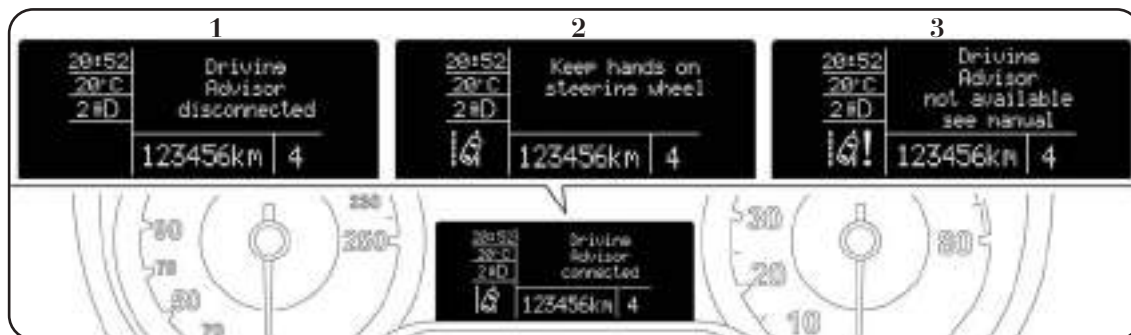

fig. 74
Confirmation that the system has been switched off is given by the LED in the button and the message 1 - fig.74 in the display going out.
The system can be deactivated automatically (if the system is required it will therefore need to be reactivated). The driver is advised that the system has been turned off automatically by three consecutive acoustic signals and the message 1 – fig. 74 in the display in the following conditions:
- the driver does not keep their hands on the steering wheel (indication 2 - fig. 74 is shown on the instrument panel and an acoustic signal sounds until the driver places his hands back on the wheel. This is considered a dangerous condition and the system is automatically deactivated);
IMPORTANT The system cannot be activated if the driver has previously selected the sports driving mode. The impossibility of using the system will be communicated to the driver by three consecutive beeps and by the message 1 - fig. 74 in the display.
In the event of malfunction, the system advises the driver of the fault through message 3 - fig. 74 on the display and an acoustic signal.